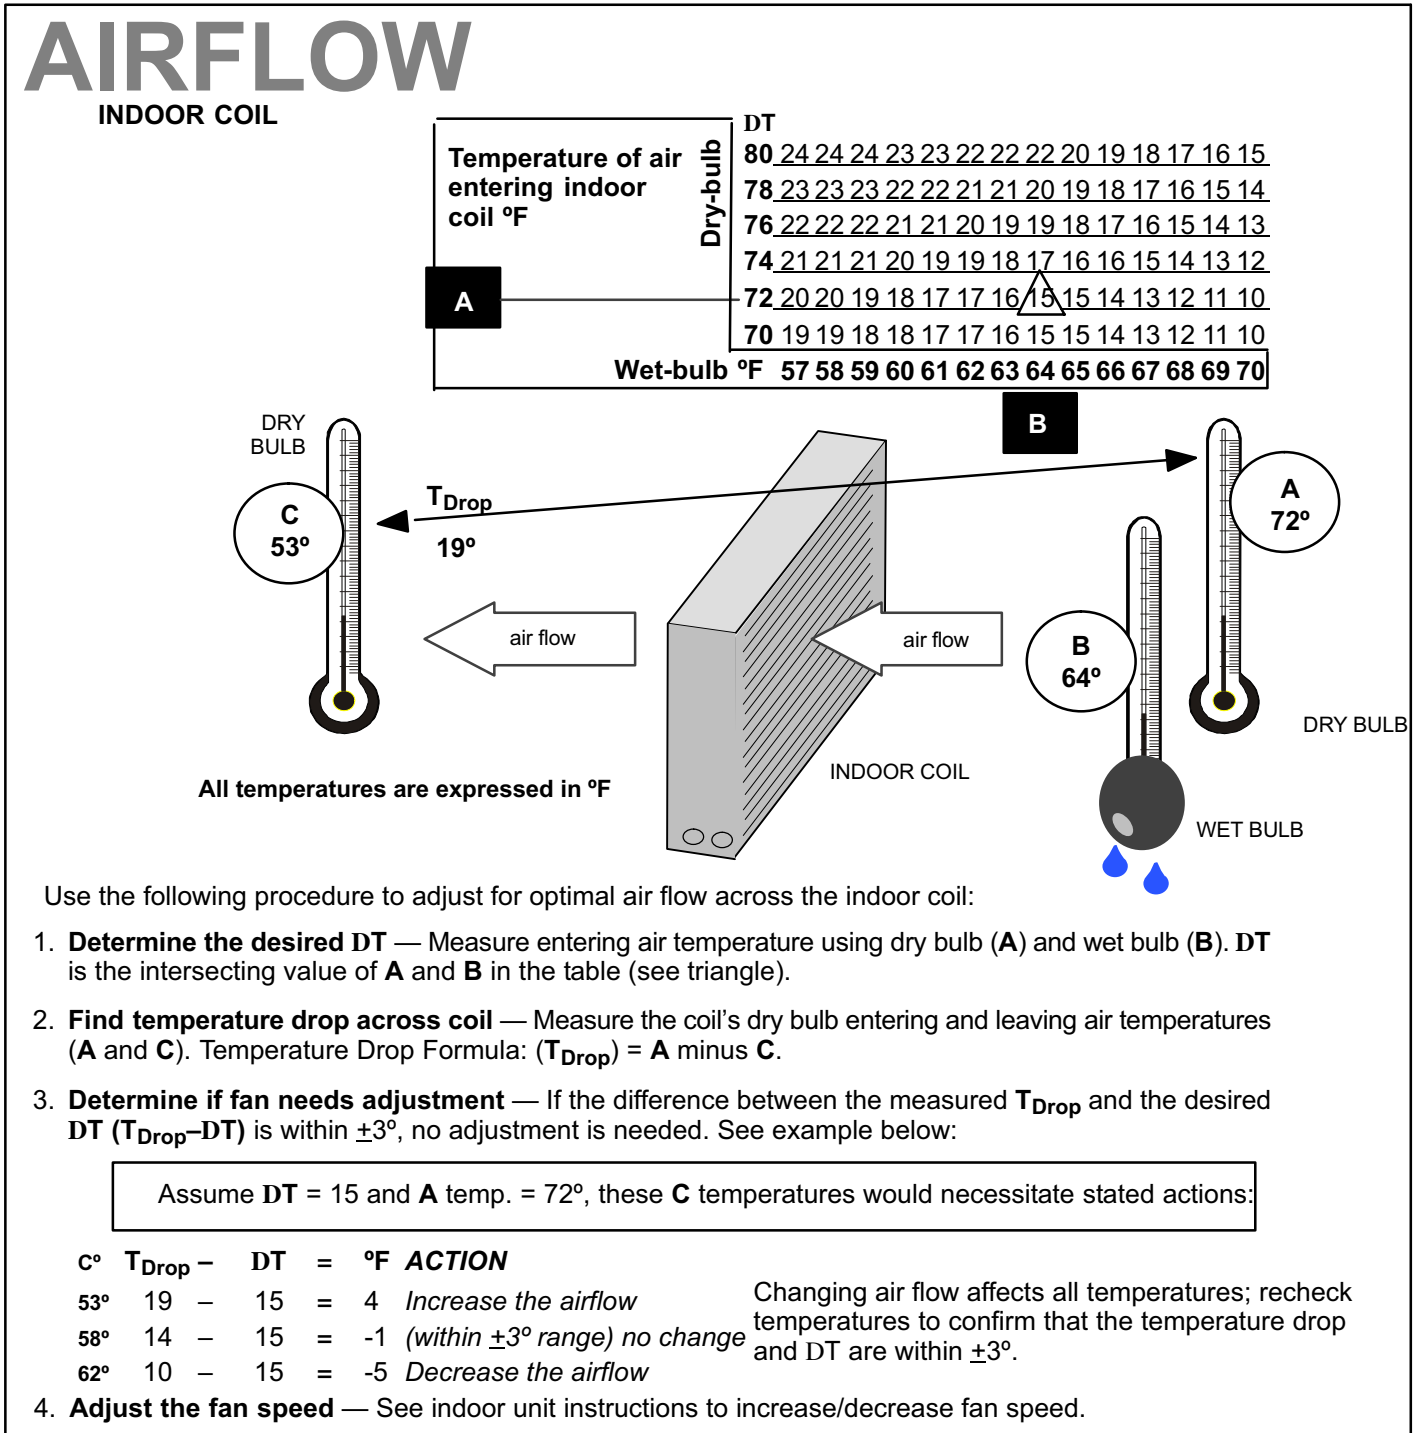

Figure 16. Checking Indoor Airflow over Evaporator Coil using Delta-T Chart
This system uses HFC-410A refrigerant which operates at much higher pressures than HCFC-22. The pre-installed liquid line filter drier is approved for use with HFC-410A only. Do not replace it with components designed for use with HCFC-22. This unit is NOT approved for use with coils which use capillary tubes or fixed orifices as a refrigerant metering device. Check airflow using the Delta-T (DT) process using the illustration in figure 16.
- 1 Check the airflow as illustrated in figure 16 to be sure the indoor airflow is as required. (Make any air flow adjustments before continuing with the following procedure.)